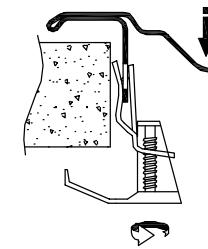

Fig 3
11. Rotate the foot section of the fixing clips 90° towards the worktop (fig. 3). Unscrew the clip to allow the foot to clear the worktop.